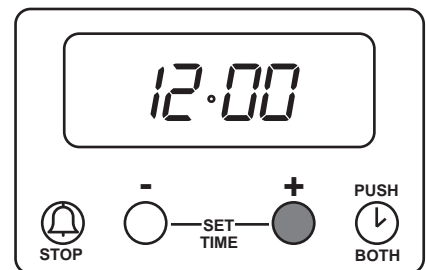

Fig. 5
Within 5 seconds, press and hold either button (1) to decrease or button (2) to increase the time until the correct time of day on the 24 hour clock is reached, e.g. 14.30. See Fig. 5.